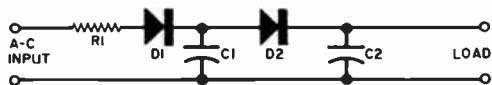

Fig. 3. George Garvin's filter uses an extra diode.
**Filter Follow-Up.** Our discussion of basic d.c. power supply ripple filters back in the May, 1967, issue (in the *Transitips* section) sparked a good deal of interest. A number of readers forwarded their comments and observations, and several even submitted "pet" circuits. Although most of these circuits were variations of standard designs, a few represented clever new approaches. One of the more interesting ones is shown in Fig. 3.